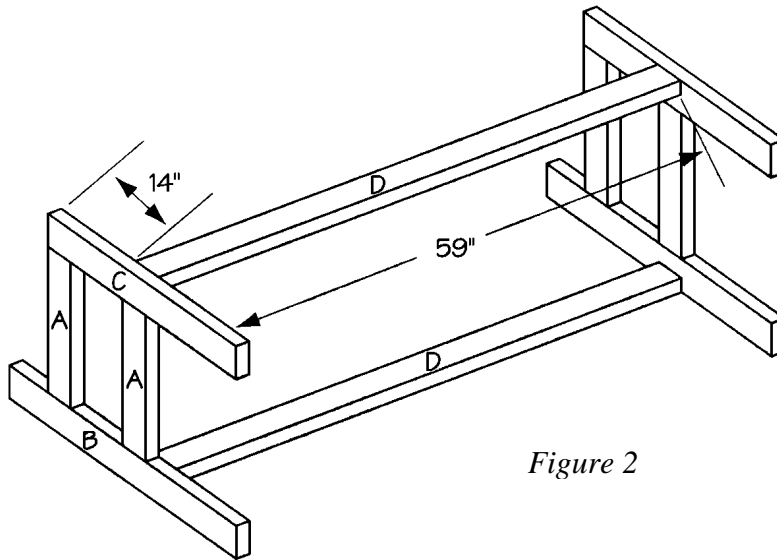
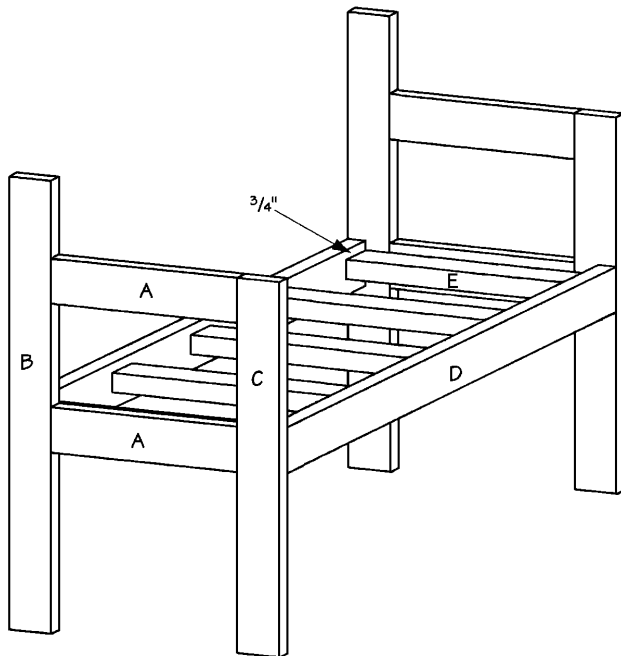

Figure 2
Figure 3
- Cut two outer seat supports (D) from 2 x 4 pine, each measuring 59 inches.
- For the next step, you may want to ask a willing helper to assist. If no one is available (or willing), use a bar clamp to hold the assembly while you screw it together. Place each side assembly on its long vertical edge (B), 59 inches away from the other side, as shown in *Figure 2*. Fit the front outer seat support (D) between the two short vertical sides (C), 14 inches from the upper edge of the sides. The top edge of the front outer seat support (D) should be exactly even with the top edge of the lower horizontal side (A). Screw through the side assemblies into the ends of the outer seat support (D), using two 2-1/2" screws on each joint.
- Repeat Step 7 to attach the other outer seat support (D) to the back of the sofa between the side assemblies, as shown in *Figure 2*. The top edge of the outer seat support (D) should be exactly even with the top edge of the lower horizontal sides (A). Using two 2-1/2-inch-long screws on each joint, screw through the long vertical sides (B) into the ends of the outer seat supports.
- Cut five inner seat supports (E) from 2 x 4 pine, each measuring 19-1/2 inches.
- Turn the assembly right side up. As shown in *Figure 3*, position one inner seat support (E) wide side up, between the two outer seat supports (D) and against one horizontal side (A), 3/4 inch below the top of the outer seat supports (D). Screw through the outer seat supports (D) into the end of the inner seat support (E), using two 2-1/2" screws.
- Repeat this step with another inner seat support (E) placed at the other end of the outer seat supports.
- Fit the remaining three inner seat supports (E) between the outer seat supports (D). Center one inner seat support (E), and space the other two evenly, as shown in *Figure 3*. Remember to place them $\frac{3}{4}$ " below the top of the outer seat supports (D). Screw through the outer seat supports (D) into the ends of the inner seat supports (E), using two 2-1/2" screws on each joint.